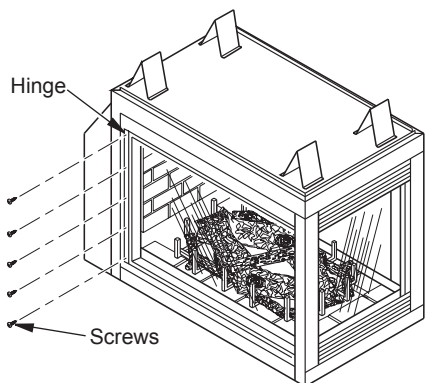
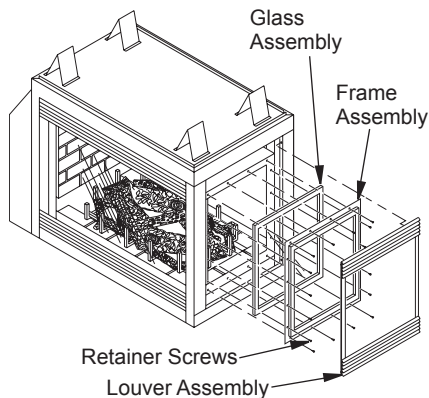

Figure 54 - Removing Glass Door
Figure 55 - End Panel Replacement
- If replacement is necessary, the entire assembly (frame and glass) must be replaced. If glass is broken, wear gloves and tape remaining fragments onto the frame. Remove 5 screws located on end of firebox while holding frame assembly to prevent it from falling and causing injury (see Figure 54). Mount new frame at hinge with 5 new screws. Close and latch door. This will seat the gasket. If replacing end glass panel, remove 16 screws around frame (see Figure 55) To insure proper fit, when installing new glass panels make sure seam in gasket is placed in the down position.